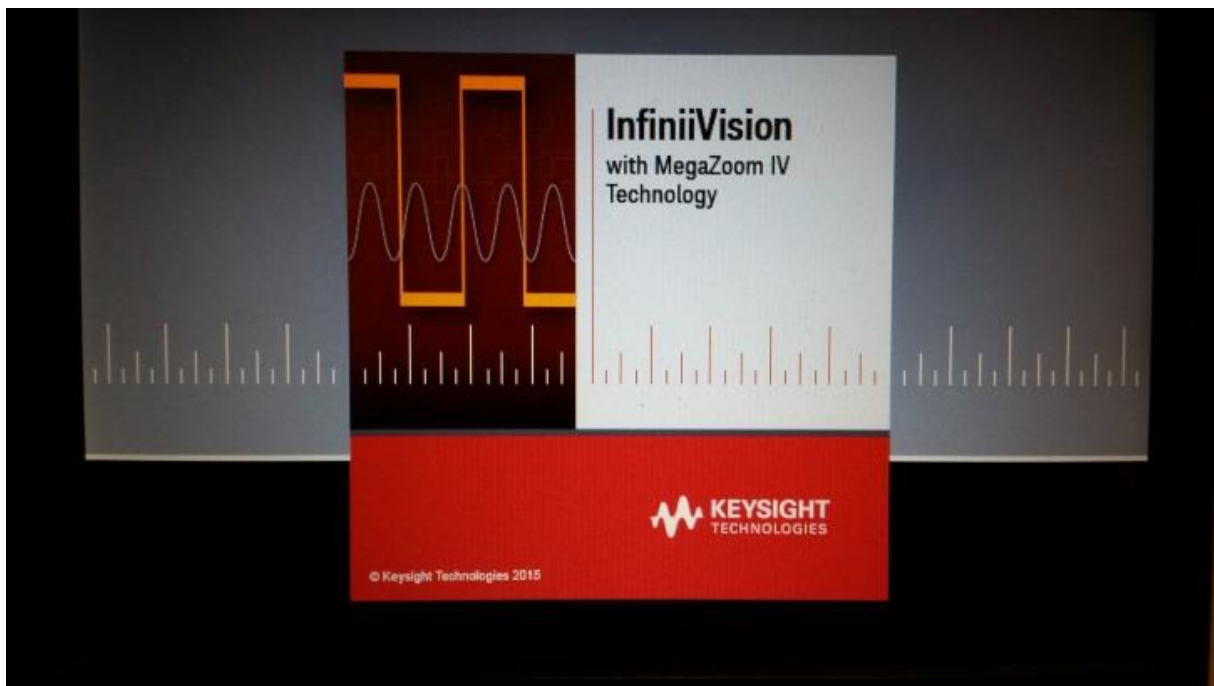

Figure 2. MSO Boot Screen
- Turn on the X 3012A by pressing the power button near the lower left corner of the display. The button should remain in the depressed position. To turn the oscilloscope off press the button a second time and the button should stay in the non-depressed position. Press the button a third time to turn on the oscilloscope. As the oscilloscope warms up and the built-in computer self-tests the system, a booting screen as shown in Figure 2 appears with the word Keysight (among other things).